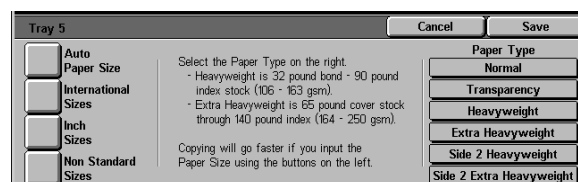

Figure 25: Tray 5 screen
- 2 Touch the **Tray 5** icon to display the Tray 5 screen, Figure 25.